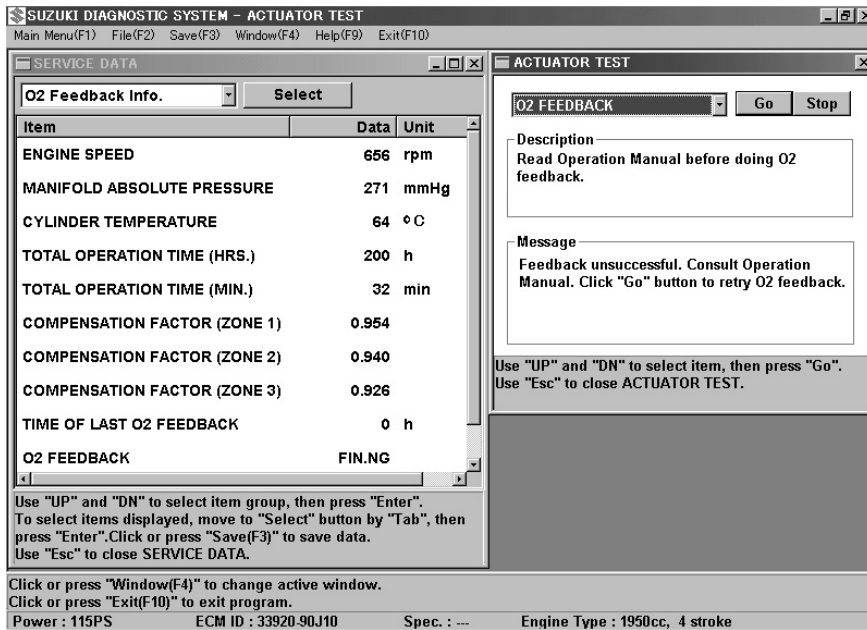

Fig.63
- If the buzzer sounds with a series of long (about 2 seconds) beep and “FIN.NG” appears in the Service Data (O_2 feedback information), feedback at this zone is unsuccessful (Fig.63). Click the “Stop” button to return to “STAND-BY” mode.
- When feedback does not normally finish, the buzzer sounds with a series of long (2 seconds) beep. "FIN.NG." is also displayed. (Fig.63)